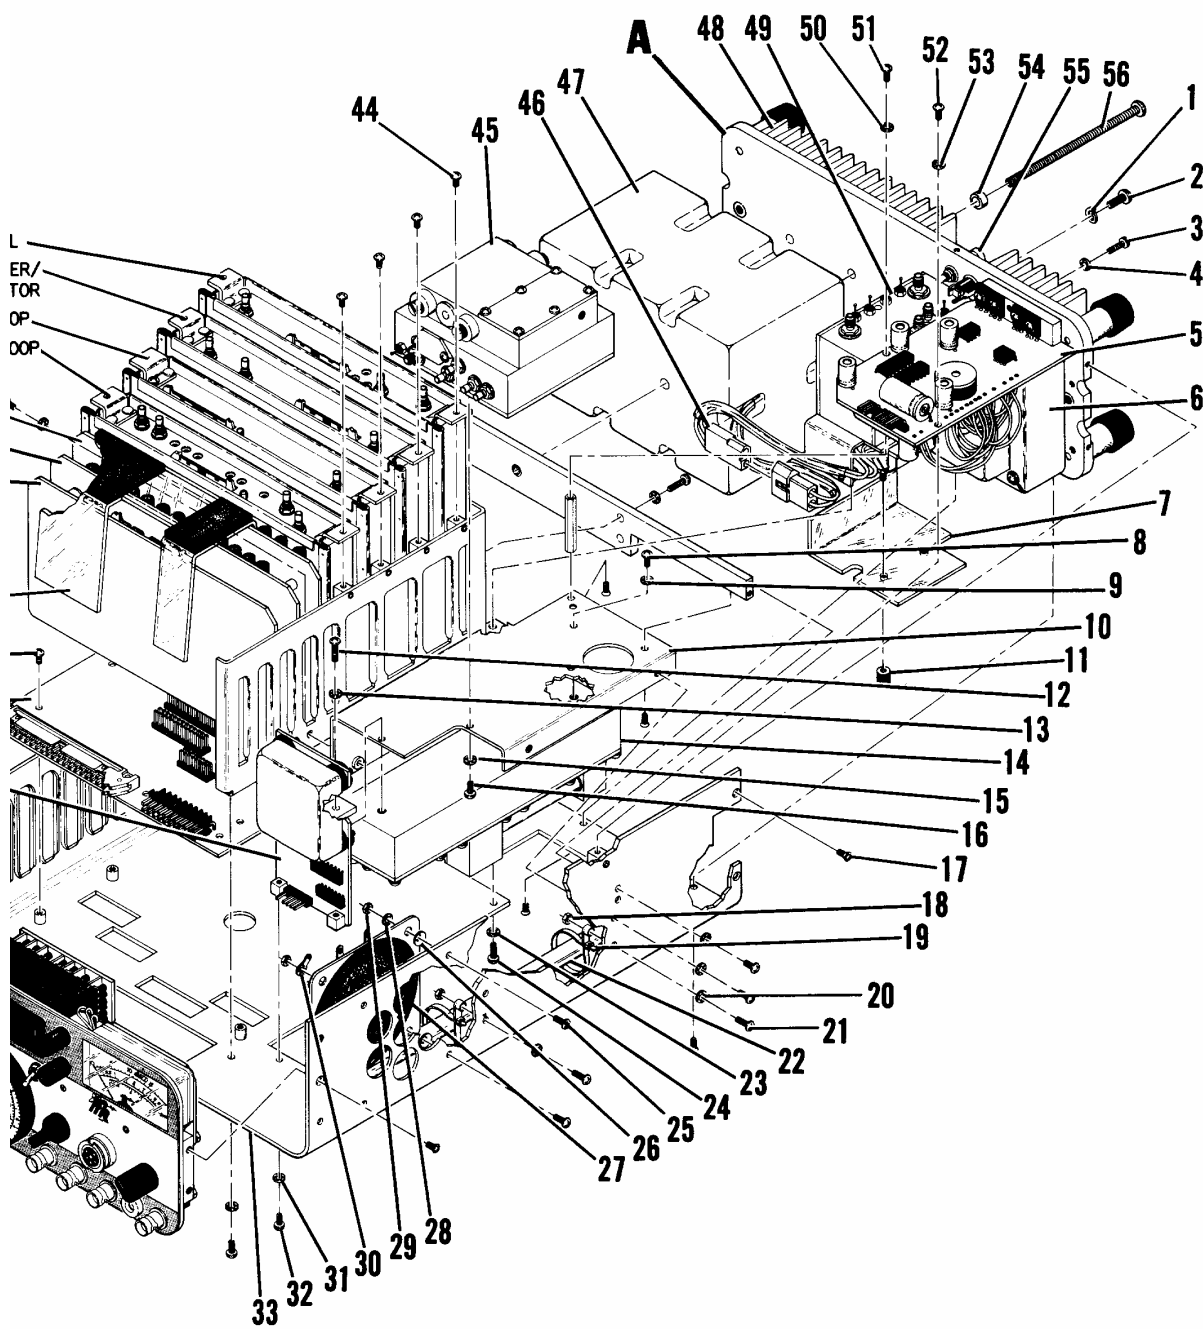

Figure 6-2 FM/AM-500A Composite Assembly
This section contains instructions that are necessary to remove and disassemble modules within the FM/AM-500A. Case removal (para. 6-2-1) is a prerequisite for all module removals. Most module removals are reflected in Figure 6-2, Composite Disassembly. However, due to the complexity of the composite, further details of module disassembly are shown on individual disassembly drawings for specific modules.
A. Removal (Figure 6-2)
A. Removal (Figure 6-2, Detail A)
1. Disconnect Wire Harness Connector and coax connector from oven oscillator (62).
2. On test sets which have the oscillator (62) mounted on a bracket (61), remove two screws (57) and lock washers (58), withdraw the oscillator and bracket from the compartment, then remove four screws (59) and lock washers (60).
3. On test sets which have the oscillator (62) mounted directly on the chassis (33), remove four screws (59) and lock washers (60), then remove the oscillator.
1. Remove two screws (32) and lock washers (31) attaching PC board assembly (38) to bottom of chassis (33).
2. Remove screw (12) and lock washer (13) attaching PC board assembly (38) to inner mounting bracket (10).
3. Withdraw PC board assembly (38) from chassis (33) and disengage wire harness plug from PC board.
4. Three flexible coax cables are permanently attached to the Frequency Standard (38). Disconnect these from High Loop Synthesizer and Digital Modules (43), and the External Standard jack (55).
1. Remove screw (3) and lock washer (4) attaching PC board assembly (5) to Rear Panel (48).
2. Remove two screws (51 and 52) and lock washers (50 and 53) attaching PC board assembly (5) to chassis (33).
3. Disengage wire harness connector from PC board (5).
1. Remove Dual VCO (14) (paragraph 6-2-13).
2. Remove screw (21), lock washer (20) and nut (18) attaching wire tie(s) (19) mounting Filter (22) to chassis (33).
3. Disconnect flexible coax cables from each end of Filter (22) and withdraw filter from chassis (33).
2. Remove 1120 MHz Low Pass Filter (22) (paragraph 6-2-6).
3. Tag and unsolder wires from two terminals on Speaker (27).
4. Remove four nuts (29), three lock washers (28), one terminal lug (30), four compression washers (26) and four screws (25) attaching Speaker (27) to chassis (33). Lift Speaker from chassis.
6-2-8 MOTHER BOARD (39) (Figure 6-2)
1. Remove Audio PC boards (42) (paragraph 6-2-9).
2. Remove Enclosed Modules (43) (paragraph 6-2-10).
3. Remove Front Panel (35) (paragraph 6-2-15).
4. Tag and unsolder wires in wire harness (not ribbon cables) from Mother Board (39).
5. Remove four screws (40) attaching Mother Board (39) to chassis (33).
1. Remove Battery (47) (paragraph 6-2-2), if installed.
2. Disconnect four semi-rigid coax connectors from Output Amplifier (49).
3. Disconnect J5106 on Output Amplifier (49) from P5106.
4. Remove two screws (2) and lock washers (1) attaching Output Amplifier (49) to Rear Panel (48).
5. Slide Output Amplifier (49) into battery well and lift from chassis (33).